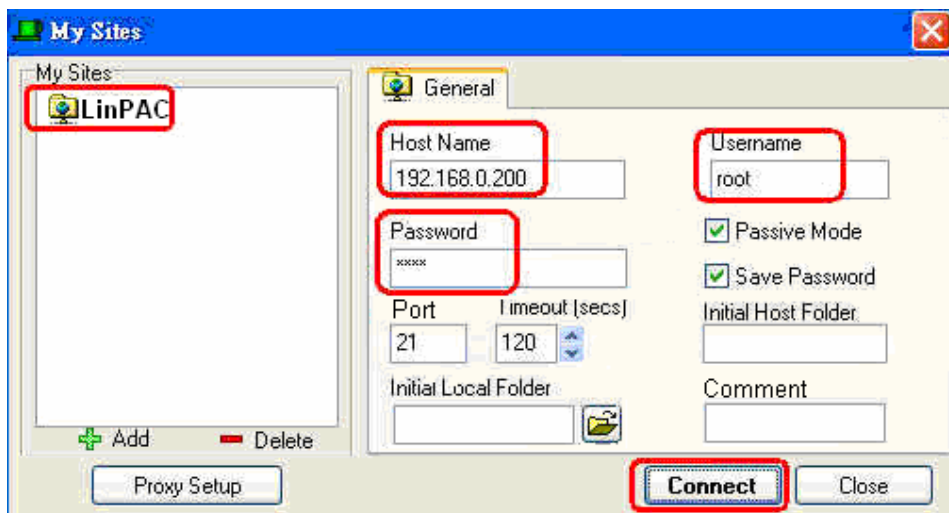

Fig.7-3
Step 1: Open a FTP application and create a new FTP connection. Enter the login details for the LP-8x21, including the Host name (or IP address), Username and Password. The default value for both the **User_Name** and the **Password** is “root”. Click the “**Connect**” button to connect to the ftp server on the LP-8x21. Refer to Fig.7-3 below for more details.